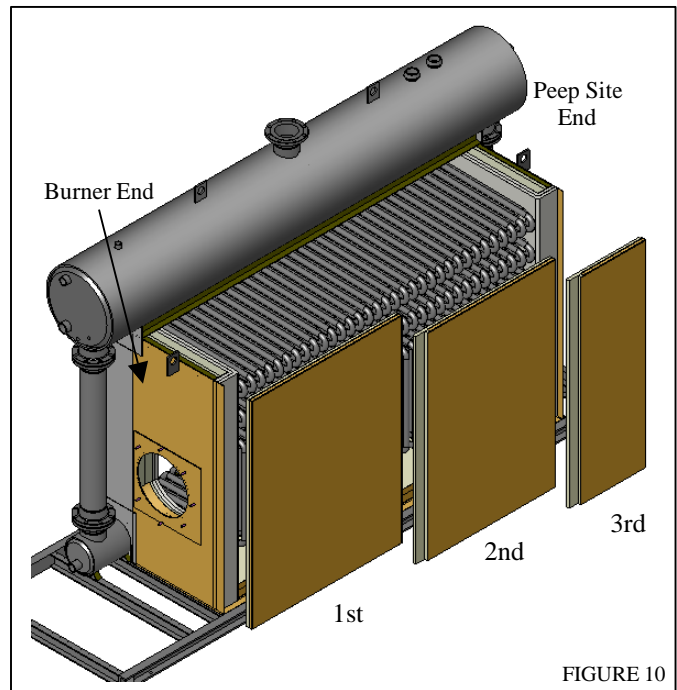

FIGURE 10
**3.10** Install the flue collector side panels starting from the burner end. See figure 10. Once again, you will notice the color-code system. This assures you that once the colors are in alignment, the flue collector sides are installed exactly the same way they were installed at the factory. If these parts are installed incorrectly, the colors will not be in alignment. Also note the tack welds from the factory help on this alignment.